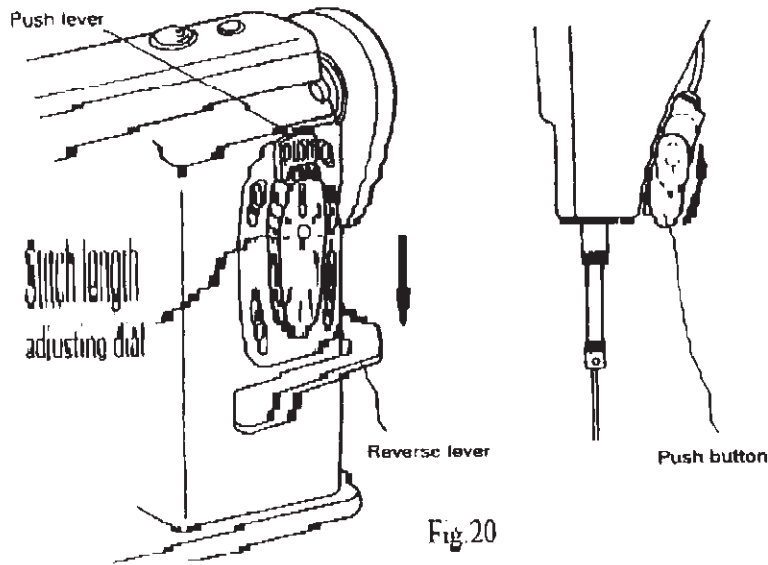

Fig.20
20. Adjustment of stitch length and reverse sewing (Fig.20):